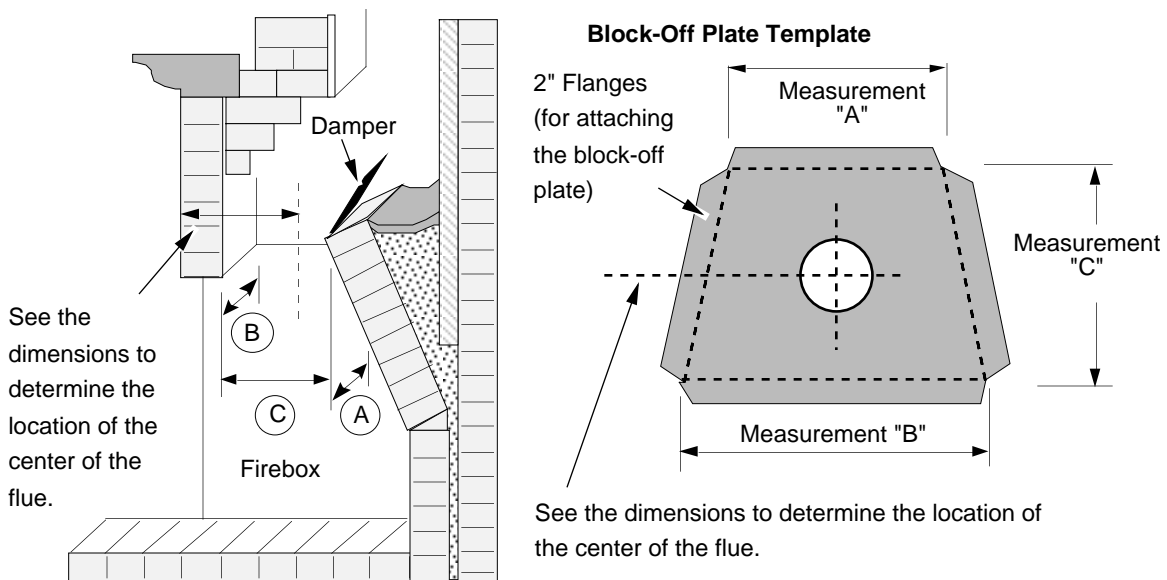

Figure 7
1. Determine a location for the block-off plate at the top of the firebox below the damper area (make it high enough to allow installation of the connection pipe). The location should be level and in an area where it can be mounted easily. Measure the width at the rear ("A") and front ("B") of the firebox at the height where the block-off plate will be installed (see Figure 7). Then measure the depth of the location where the block-off plate will be installed ("C").